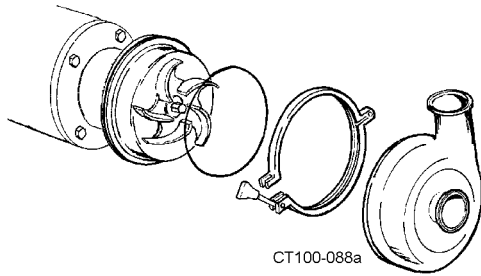

Figure 52 - Remove Casing Clamp, Casing and O-ring
2. Remove the casing clamp, casing, and o-ring from the housing flange (Figure 52).